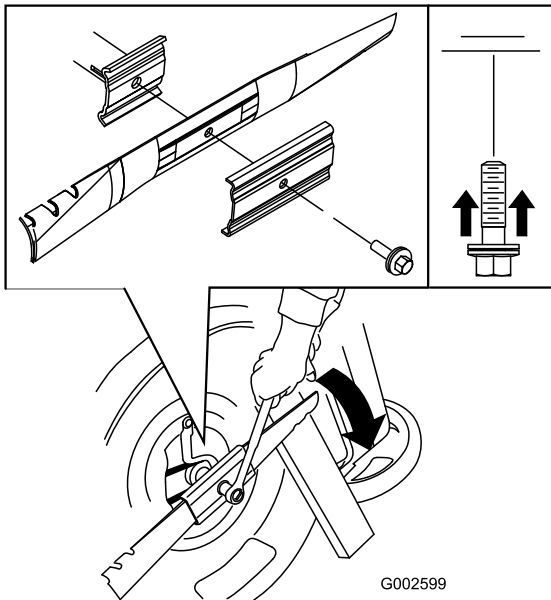

Figure 36
3. Use a block of wood to hold the blade steady (Figure 36).
4. Remove the blade, saving all mounting hardware (Figure 36).
5. Install the new blade and all mounting hardware (Figure 36).